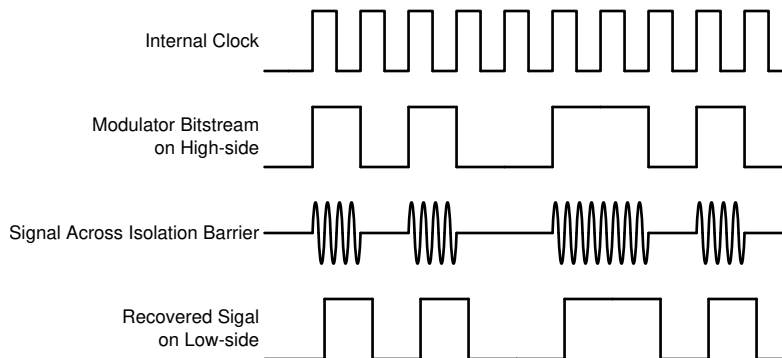

Figure 7-1. OOK-Based Modulation Scheme
The AMC1302-Q1 uses an on-off keying (OOK) modulation scheme, as shown in Figure 7-1, to transmit the modulator output bitstream across the SiO₂-based isolation barrier. The transmit driver (TX) shown in the Functional Block Diagram transmits an internally-generated, high-frequency carrier across the isolation barrier to represent a digital *one* and does not send a signal to represent a digital *zero*. The nominal frequency of the carrier used inside the AMC1302-Q1 is 480 MHz.